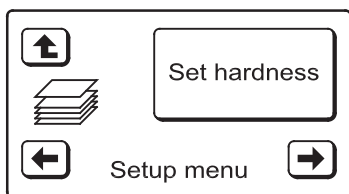

FIG. 46
2. Press the RIGHT (→) button to display the screen shown in Figure 46.